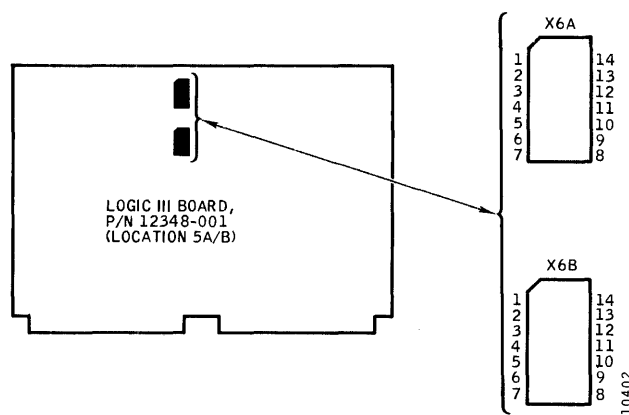

Figure 3-9. Logic III Board Sector Jumpers
2. Remove the Logic III circuit board assembly from card cage slot 5A/B, and locate IC sockets 6A and 6B used as jumper connectors. (See Figure 3-9).